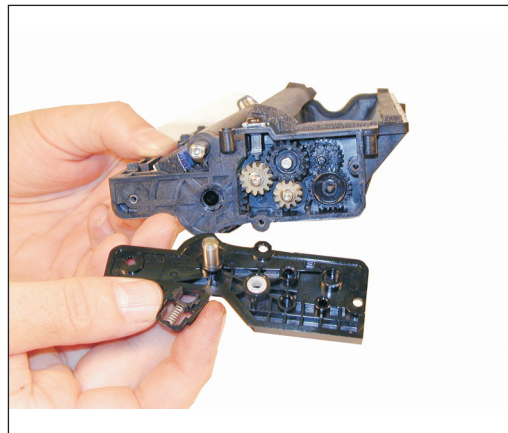

Figure 25
22) Install the 5 gears, right side end cap, and screws. Make sure the PCR fits correctly in its holder, and all the gears are aligned. See Figure 25